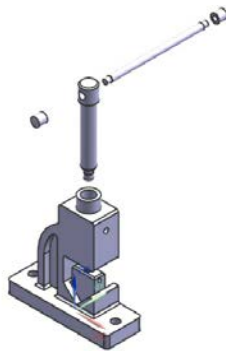

Figure 9-54 The final exploded view of the Pipe Vice assembly
1. Choose **Menu > File > Save** from the **Top Border Bar** to save the exploded view. The final exploded view of the Pipe Vice assembly is shown in Figure 9-54. Next, close the file.